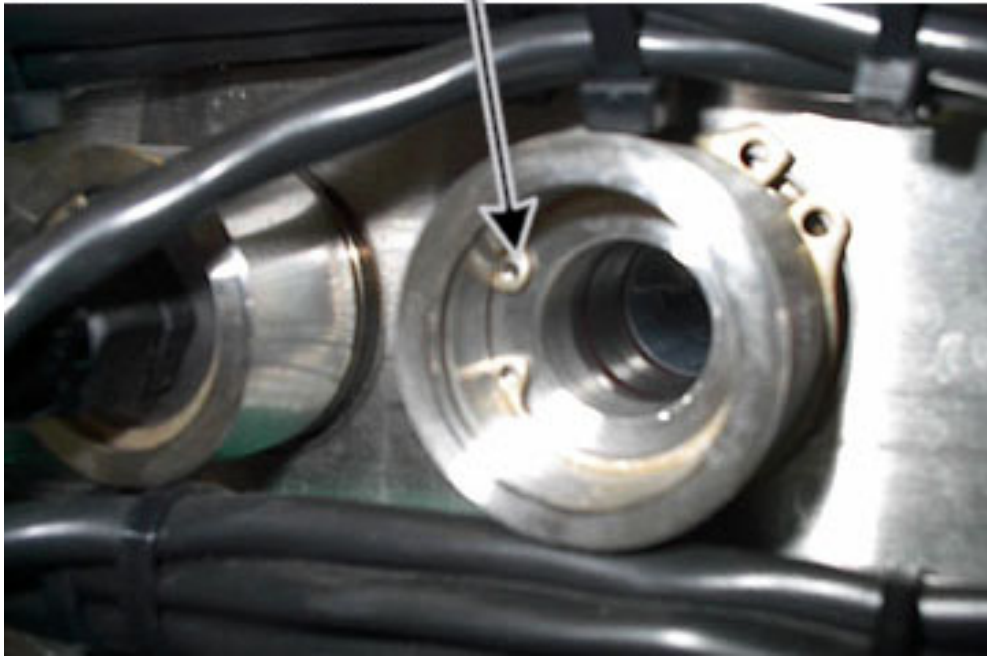

Figure 19: Lamp Removed - Quartz Annulus
3. Remove snap ring in front of seal plug (Figure 19: Lamp Removed - Quartz Annulus).